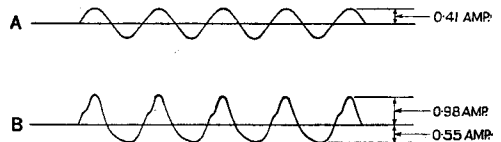

Fig. 7. Oscillograms of input current to rectifier: A. Battery disconnected; supply=115v. 50 cycles. B. Battery on charge receiving 0.26 ampere at 24 volts.
In Fig. 7 oscillograms are shown of the primary current to the rectifier, (A) with the valve filament incandescent, but no output current taken; and (B) with the set charging a 24-volt battery at 0.26 ampere.